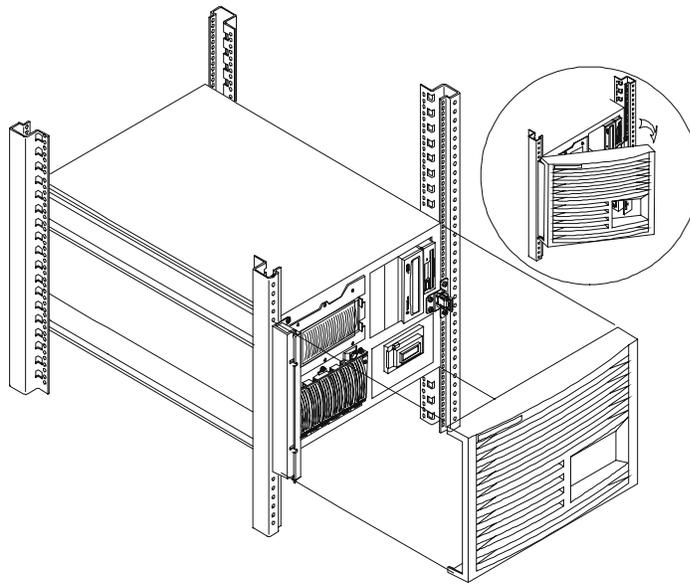

Figure 8-16. Installing the Bezel
6. Snap the bezel on the bezel hinge and swing the bezel closed engaging the bezel latch. The bezel swings open to access the HP NetServer internal mass storage cage (see Figure 8-16).